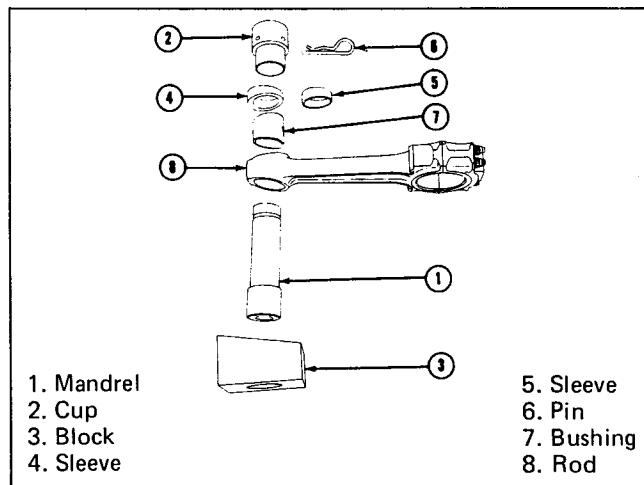

Fig. 1-15, (N10158). ST-1242 Mandrel and details
1. Remove worn bushings with ST-1242 Mandrel and Detail 5 (Fig. 1-15); remove tool.
2. To install standard size bushing (7) in rod, assemble bushing (7) on mandrel (1), position sleeve (4) then cup (2) on mandrel (1). Secure with locking pin (6).